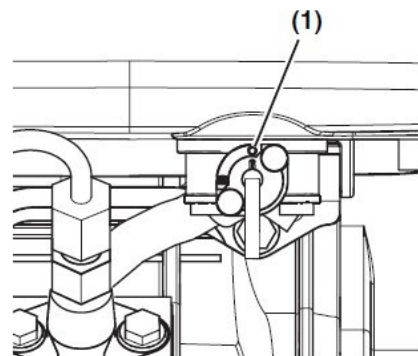

Figure 9
2. Make sure the fuel cock is in the ON position **(Figure 9, (1))**.